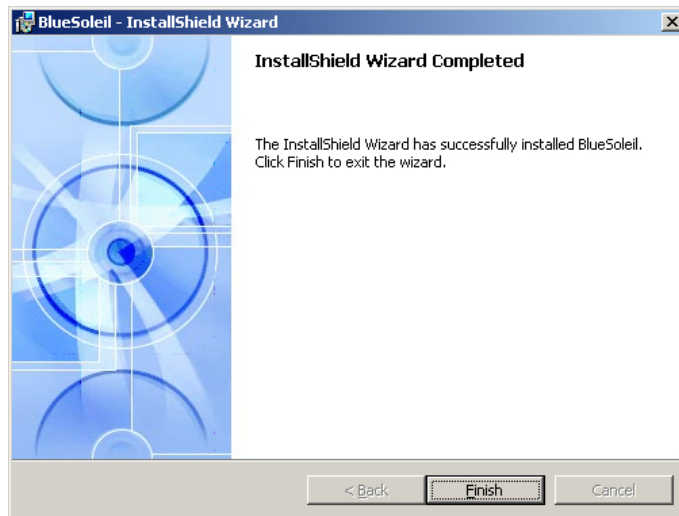

Figure 7-36: Bluetooth Driver Complete Installation Screen
Step 10: When the installation process is complete, the Setup Complete screen appears. See **Figure 7-36**.